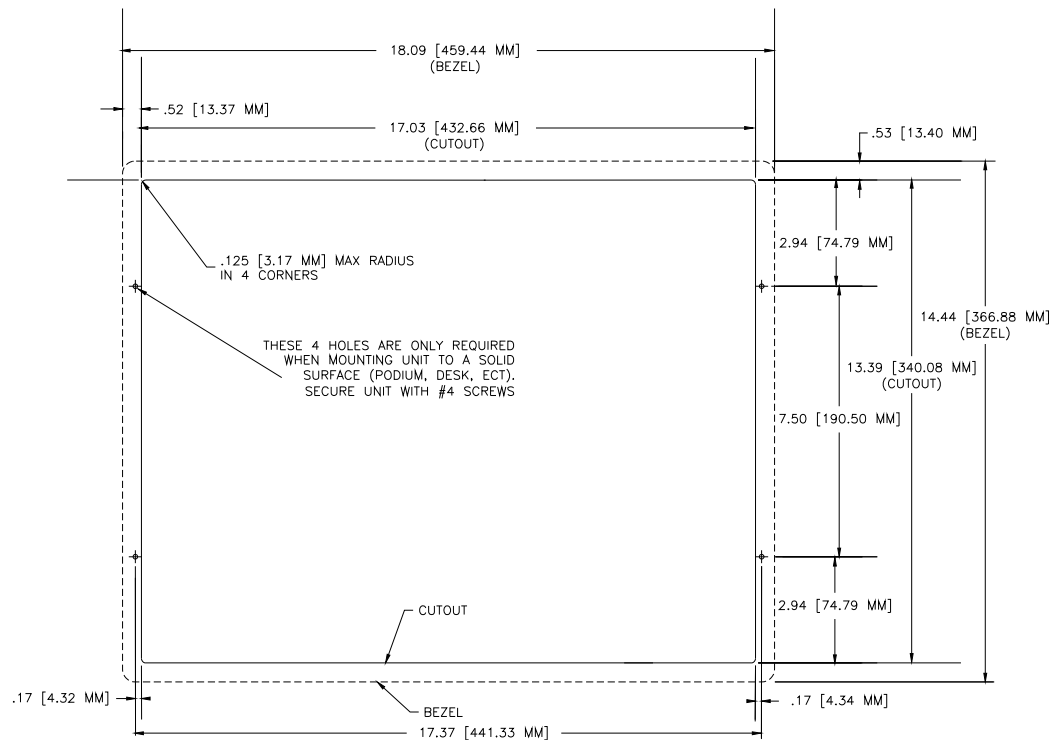

FIG. 60 NXD-1700VG Wall Mount panel dimensions using #4 mounting screws
- Pre-wall framing** is done prior to the drywall installation (local framing instructions vary based on location and building codes). Mount the main NXD unit into a pre-wall environment by fitting the right side of the box against a beam, then notching the stud closest to the connectors (based on FIG. 60 and the depth of the drywall), and using the securing screws to fasten the unit into place after the drywall has been installed. A horizontal beam can be installed (framed) below the back box to provide lower support.
- Cut out the surface for the Wall Mount using the dimensions shown in FIG. 60.